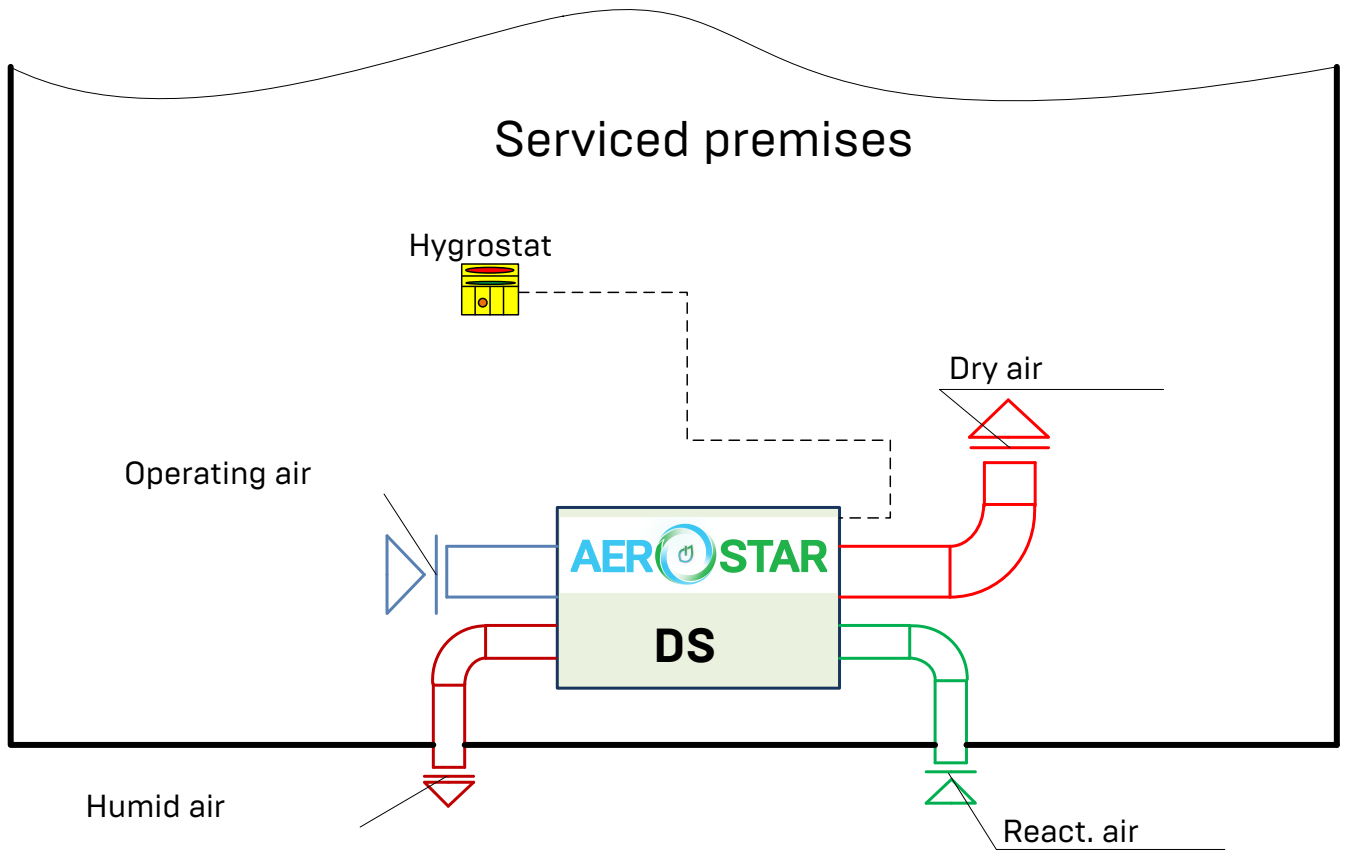
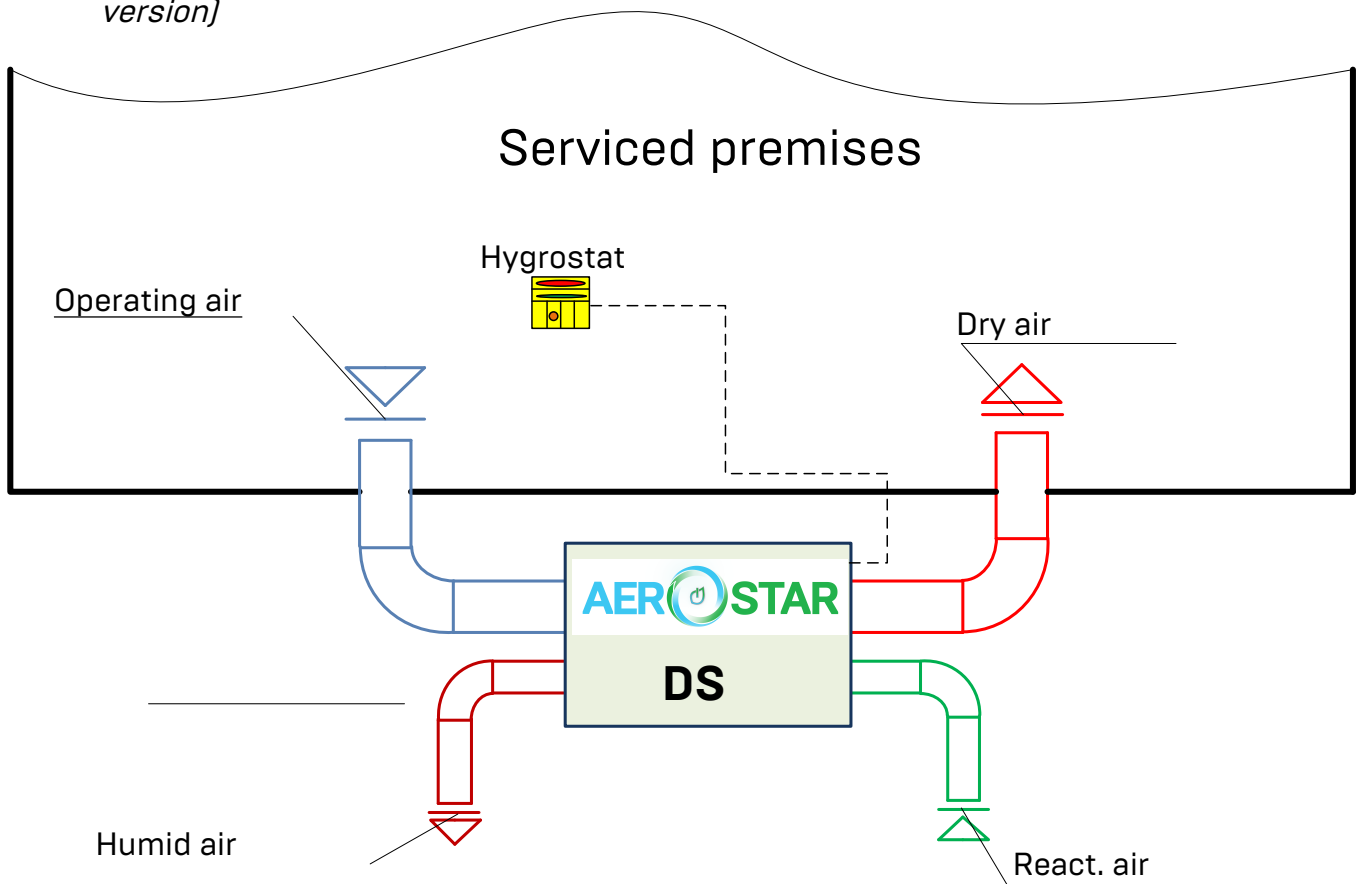

Figure 4.1 - Operation of the dehumidifier according to the "closed" scheme (internal version)
Figure 4.2 - Operation of the dehumidifier according to the "closed" scheme (outdoor version)
- ✓ operation of the dehumidifier according to the "closed" scheme (internal version) - see figure 4.1;
- ✓ operation of the dehumidifier according to the "closed" scheme (outdoor version) - see figure 4.2;
Figure 4.1 shows the option of installing a dehumidifier inside the serviced premises when working on recirculation ("closed" scheme). That is, air is taken from the internal volume, dried and thrown back. The reactivation air is taken outside the serviced premises, where it is thrown out. In automatic mode, the dehumidifier will operate until the set point on the humidistat is reached.
Figure 4.2 shows an option for installing a dehumidifier outside the serviced premises when working on recirculation. It differs from the first option (see Figure 4.1) only in the place where the dehumidifier is installed.